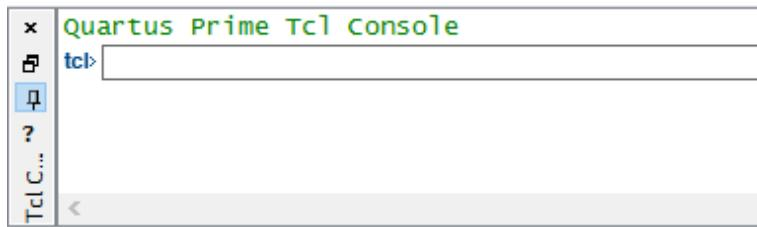

Figure 13: TLC Console window
- Last, we will assign the remaining pins using a TCL commands. In Quartus, proceed to **View → Utility Windows → TCL Console**. You should see a window across the bottom of your Quartus window as shown in Figure 13. If it doesn't show up, try the command again as this toggles the window on and off.